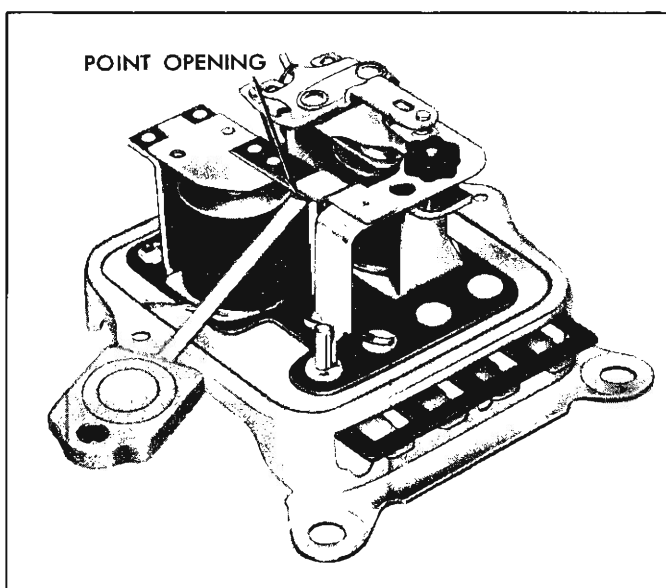

Fig. 20c—Checking Field Relay Point Opening
1. Point Opening: The point opening is checked as illustrated in Figure 20c. If adjustment is necessary, carefully bend the armature stop.